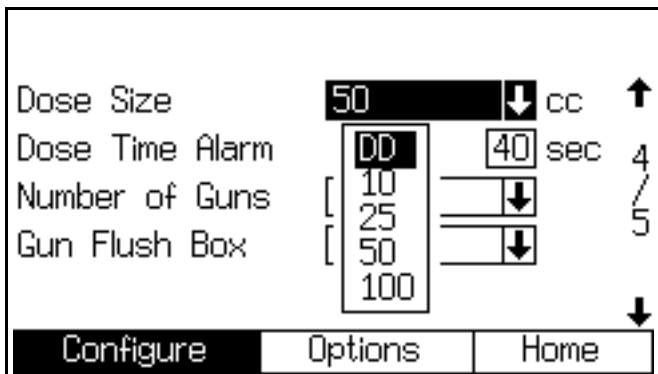

FIG. 54. Configure Screen 4, dynamic dosing selected
2. Navigate to System Configure Screen 4. Select "DD" option from the "Dose Size" drop down menu. FIG. 54.